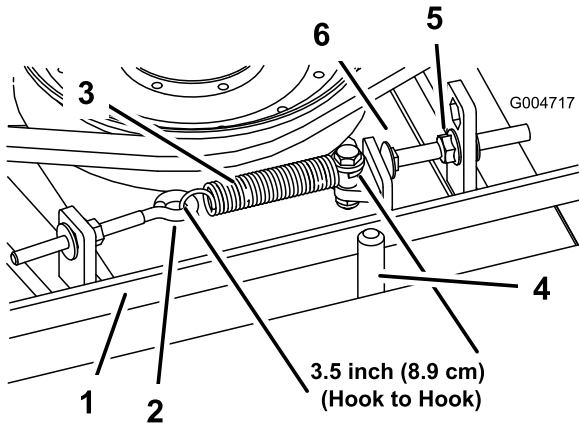

Figure 70
When properly tensioned, the extension spring (hook to hook) measurement should be approximately 8.9 cm \pm .63 cm (3.50 \pm .25 inch) (inside). Once the correct spring tension is attained, adjust the stop bolt (carriage bolt) until there is approximately .32 cm \pm .152/.000 cm (.125 \pm .060/-0.000 inch) clearance between the head of the bolt and the idler arm (Figure 70).
Note: Make sure the belt is positioned on the spring side of the belt guide (Figure 70).
2. Loosen the eye bolt allowing the removal of the extension spring (Figure 70).
3. Loosen the flange nut securing the stop bolt to the mounting tab. Back off the nut enough to allow the idler arm to pass by the stop bolt (Figure 70). Move the idler pulley away from the belt to release belt tension.
8. Reconnect the extension spring (Figure 70) to the eye bolt and tension the belt as follows: